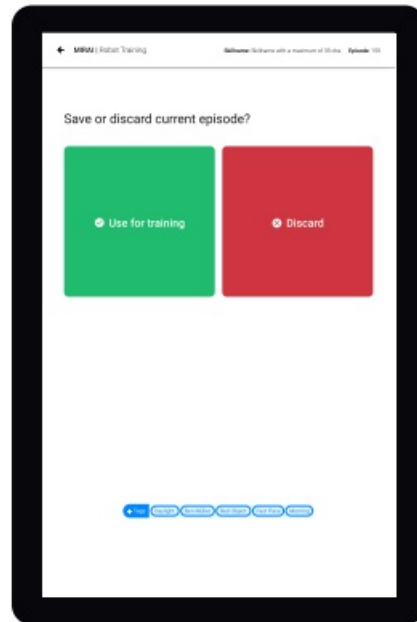

FIGURE 8
3. Tap Use for training if the recorded episode is a good representation of the task. (Figure 8)